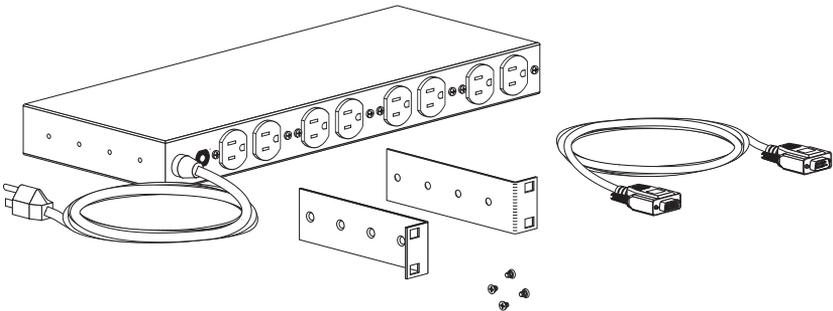

Figure 1: MasterSwitch 100V with Rack-Mounting Brackets and Configuration Cable
- Four screws for attaching the rack-mounting brackets to the MasterSwitch. (See Figure 1.)
- One DB9 female cable (APC PN 940-0103) for connecting a terminal (or terminal emulator) to the MasterSwitch for configuration. (See Figure 1.)